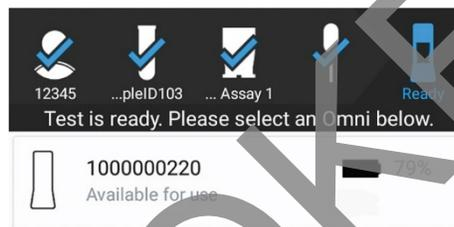

Figure 7. Example of an Omni Instrument Connected to Mobile Device
8. Verify that the instrument icon appears at the bottom of the screen as shown in Figure 7.